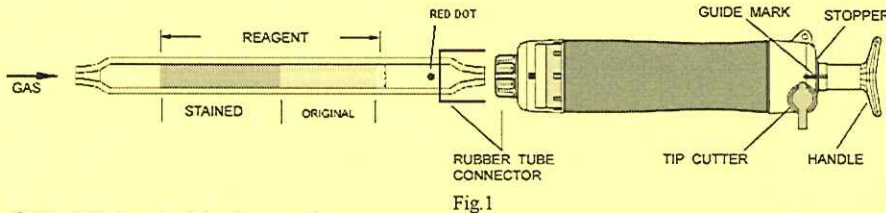

Fig.1
- ② Insert the detector tube into the aspirating pump securely as shown in Fig.1.
- ③ Align the guide marks on the shaft and stopper of the aspirating pump.
- ④ Pull the pump handle at a full stroke until it locks and wait for 1 minute or until the completion of sampling is confirmed with the flow indicator of the pump. (See descriptions about the flow indicator in the instruction manual of the pump.)
- ⑤ On completion of sampling, remove the detector tube from the pump and read the enclosed concentration with the concentration chart in the following way.